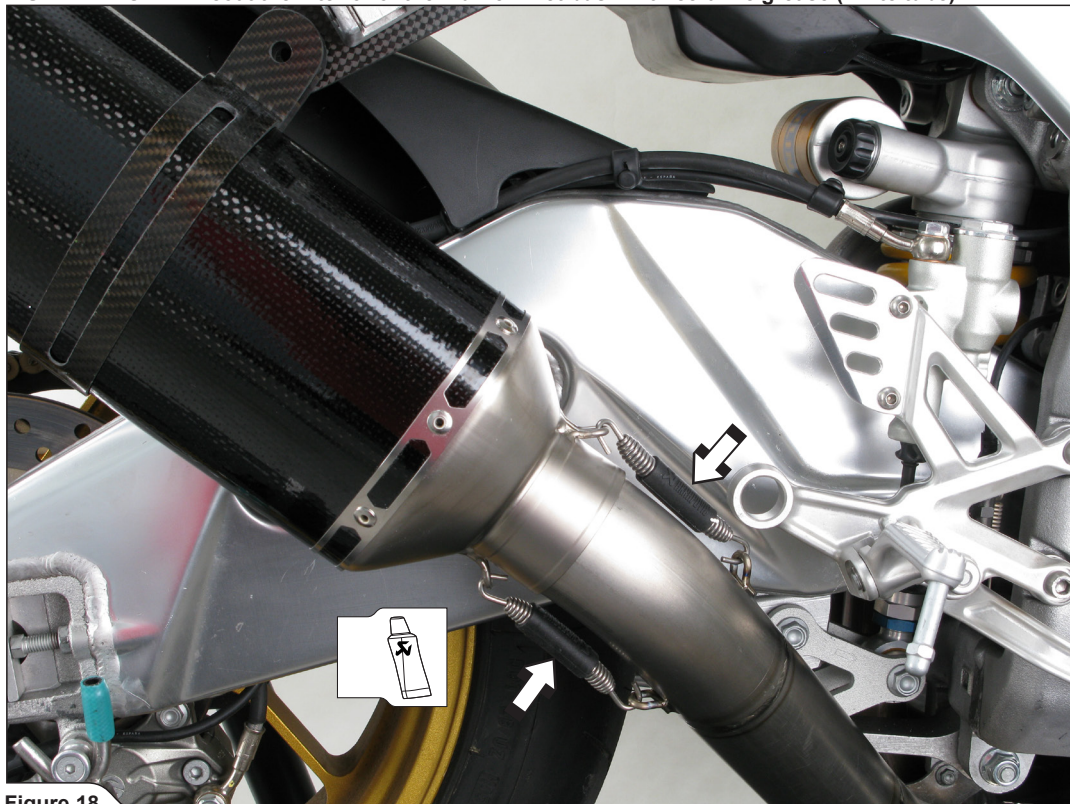

Figure 18
9. Position the muffler correctly and slide it onto the outlet side of the link pipe. Attach the springs (**Figure 18**).